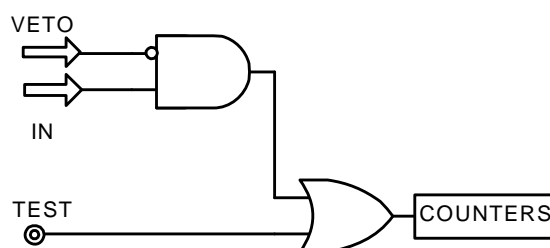

Fig. 4.1 Control inputs logic
N.B: If one channel logic status is “1”, an eventual TEST pulse is neglected by the counters (see Fig. 4.1). Moreover, in the V820 / V830 LA / LC (LVDS inputs), if no input signal is present (i.e. the channels are disconnected), the TEST pulses are counted only if VETO is active, since in this case (no signal) the LVDS logic status is “1”.